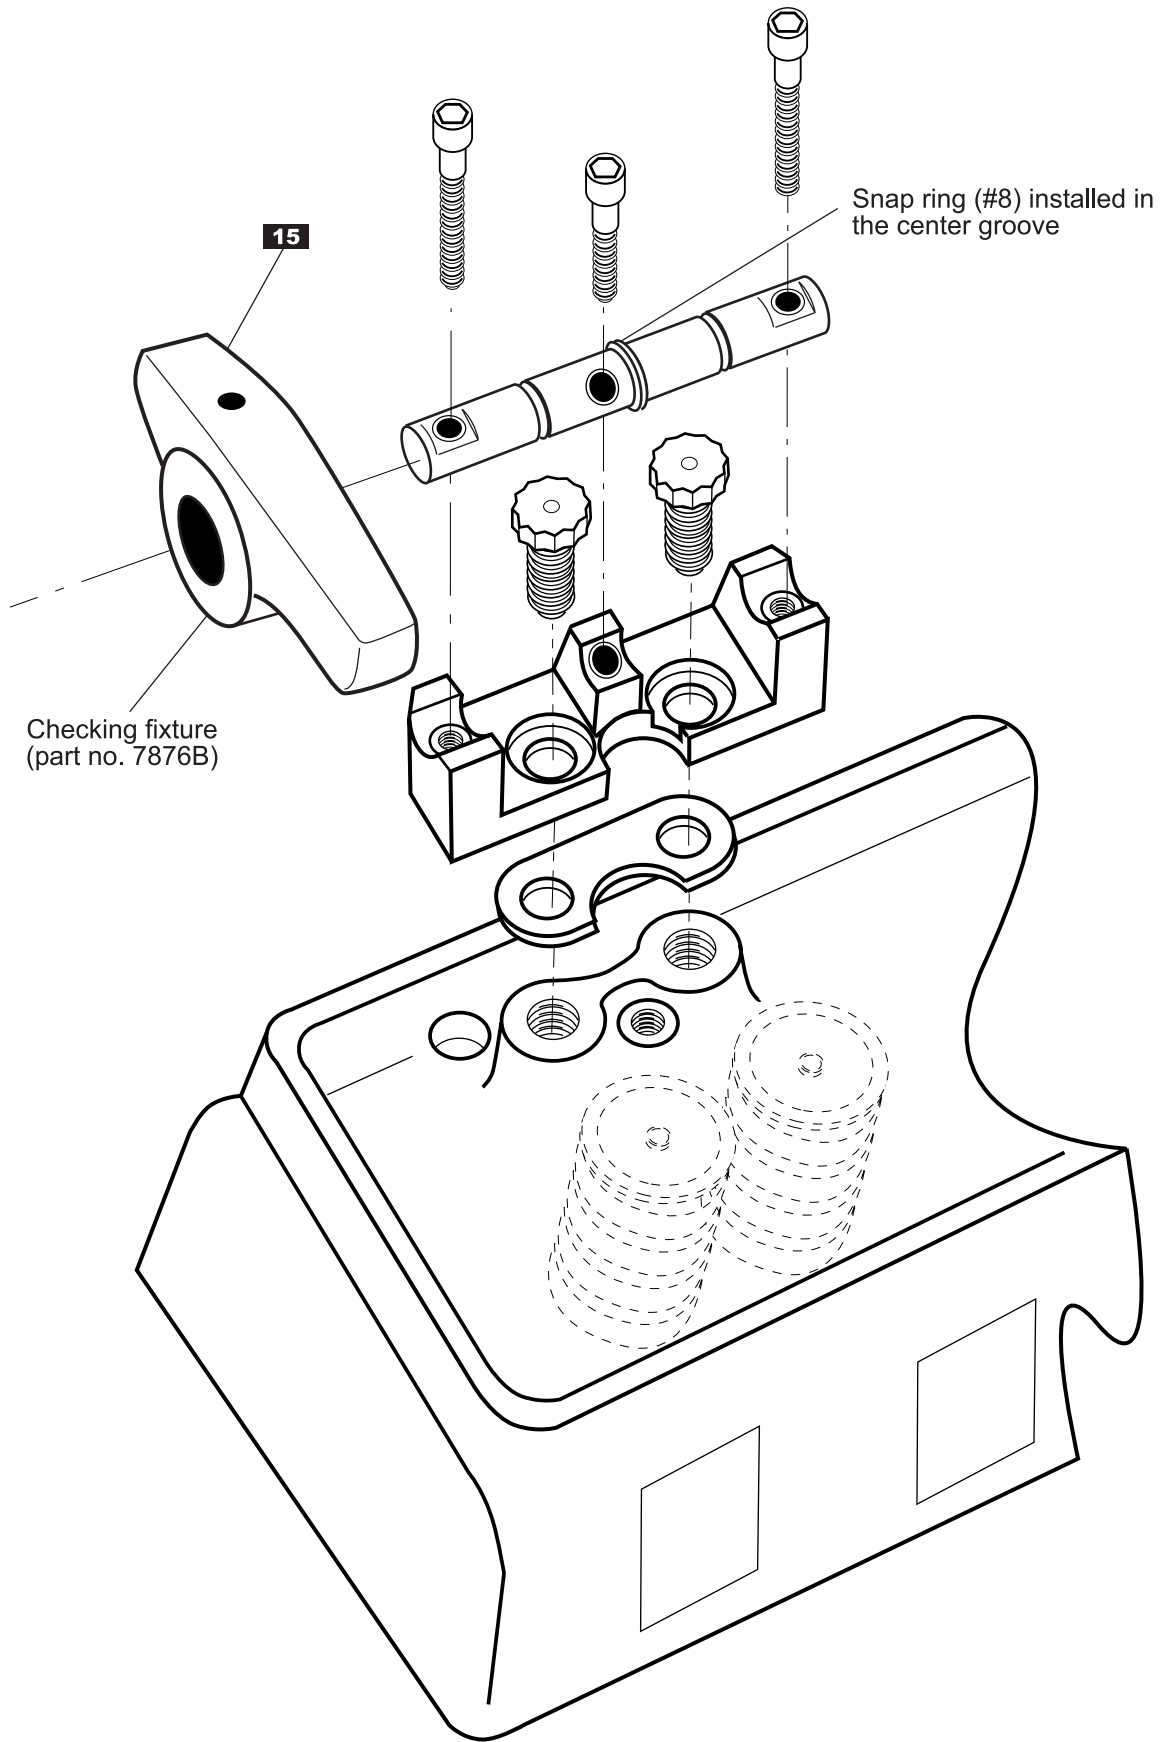

Figure 3.
2. Install the stand height **checking tool** (item No. 15, fig 3) onto a shaft and install the shaft on a stand. (See **Figure 3**). Lightly snug the shaft to the stand with 1 short and 2 long, #45 Torx® shaft mounting bolts. Gently slide the **checking tool** adjacent to the valve stem tip or over the valve stem tip. The stands are at the proper height if the tip of the valve is within (+or -) .030" of the bottom of the **checking tool** as shown in **Figure No. 5**. **NOTE:** the rear stud of the checking tool must rest on the shaft stand when comparing the valve tip height.
6. Install one snap ring in the middle (thin) groove of each shaft. **(See Figure 3) NOTE: Do not scratch, ding, or scrape the surface of the shaft!** Treat the shaft surface exactly as you would a main or rod bearing insert!